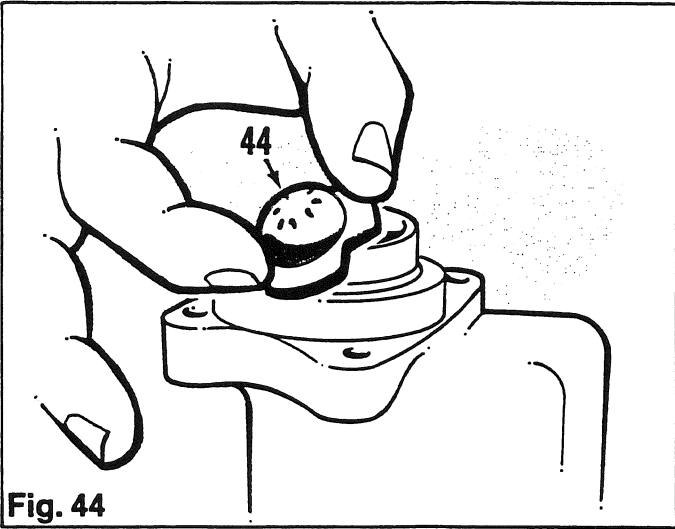

Fig. 44
2. If you are working on a brake master cylinder, install the residual check valve (44). **Do Not** use the residual check valve in a clutch master cylinder. (Fig. 44)
3. Apply clean brake fluid to a new seal (40) and O ring (41). Install them on the reaction piston (39).